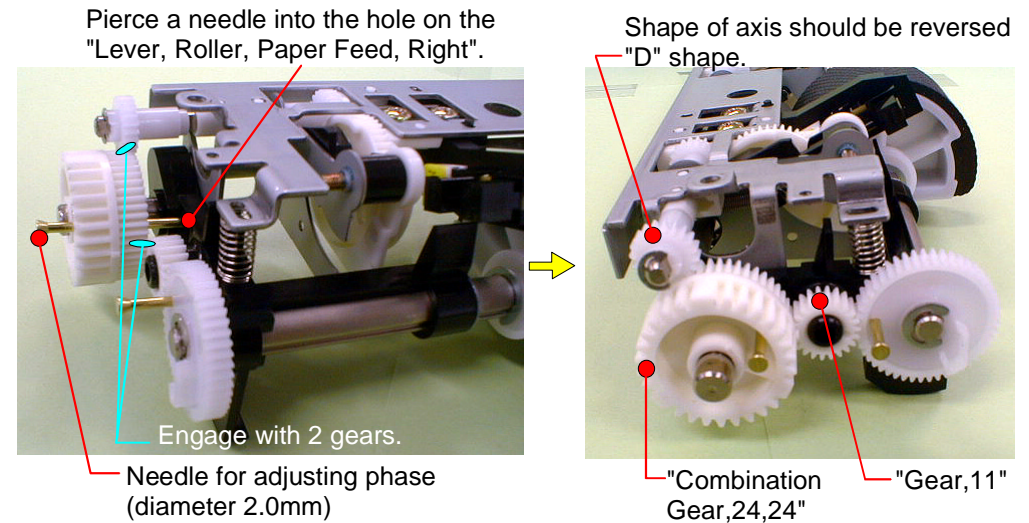

Figure 4-175. Installing "Combination Gear,24,24"
43. Let the needle tip, which is inserted to "Combination Gear,24,24", pierce into the hole on the "Lever, Roller, Paper Feed, Right", and push in "Combination Gear,24,24", engaging its teeth with the teeth of "Gear,10" and of "Gear,11". (See figure4-175)